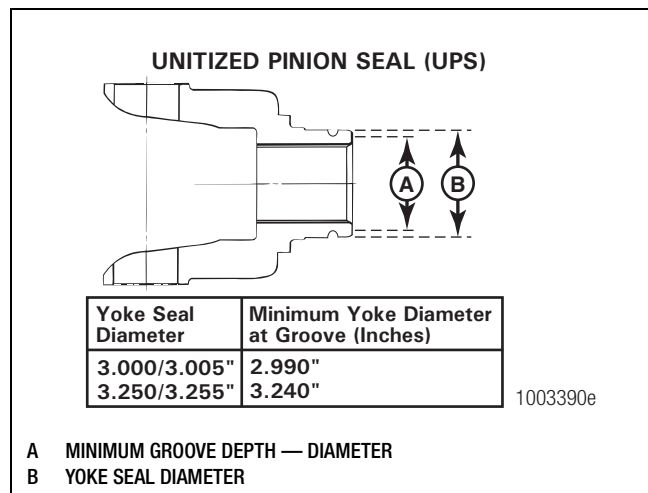

Figure 5.107
- **If you find grooves on the yoke:** Use calipers to measure the groove diameters. If any groove diameter measures less than the dimensions shown in Figure 5.107, replace the yoke.